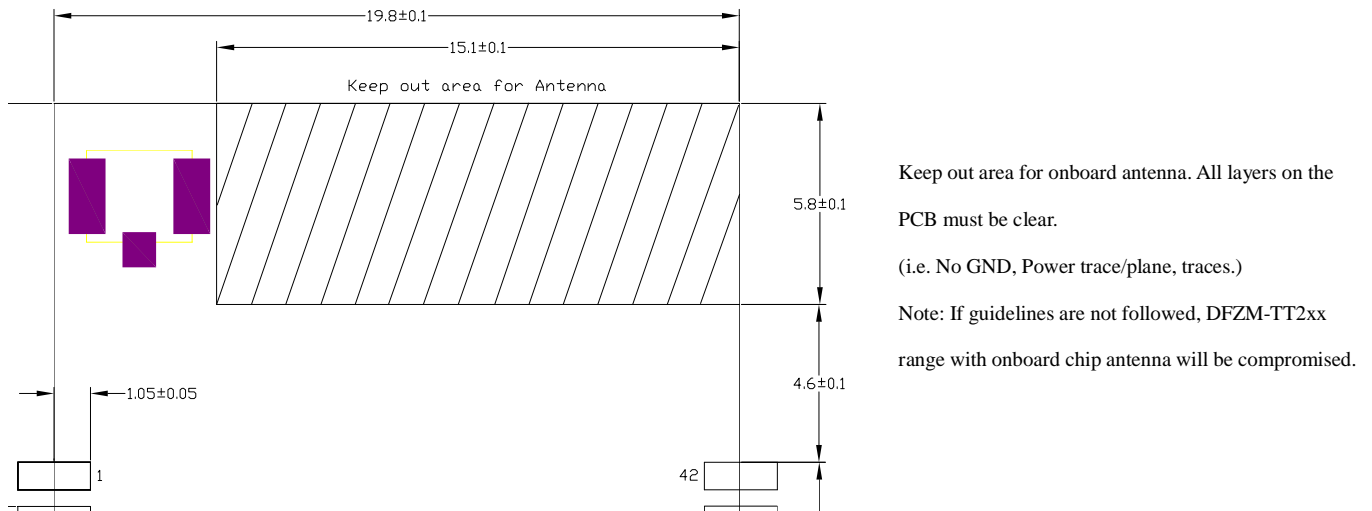
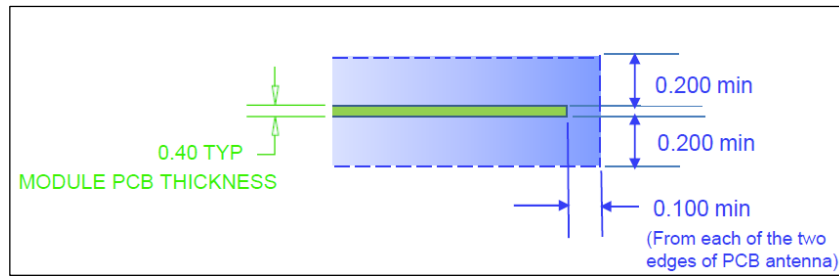

Figure 6-3: DFZM-TT2xx module onboard antenna keep-out layout guidelines (in mm)
Figure 6-4 Recommended clearance above and below the PCB trace antenna
In addition to the guidelines in Figure 6-3, note the following suggestions:
- The onboard antenna keep out area, as shown in Figure 6-3, must be adhered to. In addition it is recommended to have clearance above and below the PCB trace antenna (Figure 6-4) for optimal range performance.
- Recommendation is to keep plastic enclosure clearance of 1cm from top and bottom of the DFZM-TT2xx onboard antenna keep-out area, if possible. 5-mm (0.2 in) clearance shall be the minimum as shown in Figure 6-4.